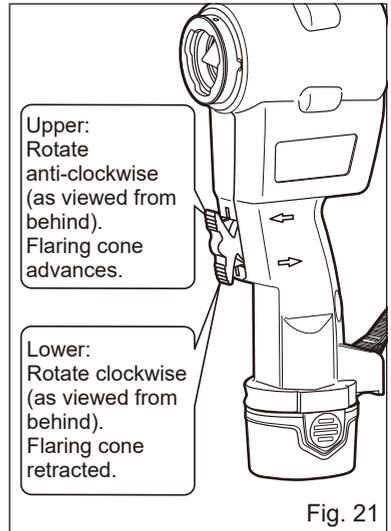

Fig. 21
2. Start flaring by pressing and holding the upper part of the switch while the cone is rotating anti-clockwise (as viewed from behind) and moving forward. Flaring should be completed within 3 seconds from when you hear a click; release the switch to stop rotating. (Fig. 21)